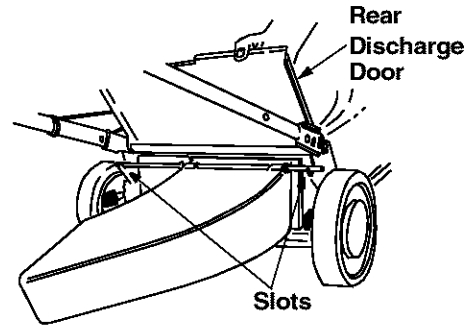

Figure 12
- **To attach chute deflector:** Lift the rear discharge door on the mower. Place the ends of the rod into the slots in the handle bracket assemblies. See Figure 12. Release the rear discharge door.
- **To remove chute deflector:** Lift the rear discharge door on the mower. Lift the chute deflector up and out of the slots in the handle bracket assemblies. Release the rear discharge door. See Figure 12.